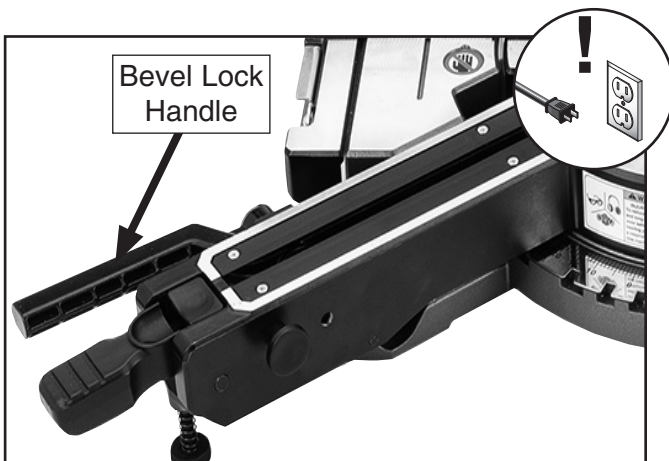

Figure 51. Bevel lock.
2. Lift bevel lock handle to unlock tilt position (see **Figure 51**).